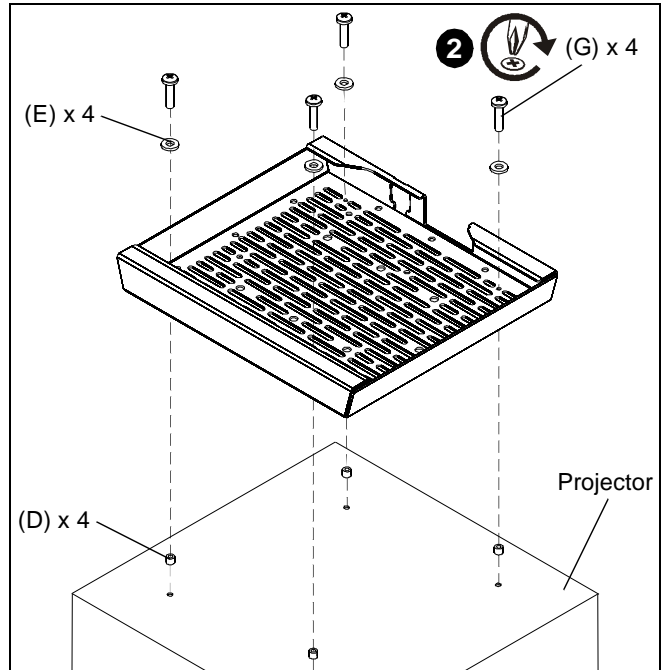

Figure 6
1. Align projector and security mount drawer so that the projector is oriented correctly and mounting holes are aligned. (See Figure 6)
2. Secure projector to mount using four M3 x 20mm Phillips head machine screws (G), four flat washers (E) and four spacers (D). Spacers should be placed between projector and mount. (See Figure 6)